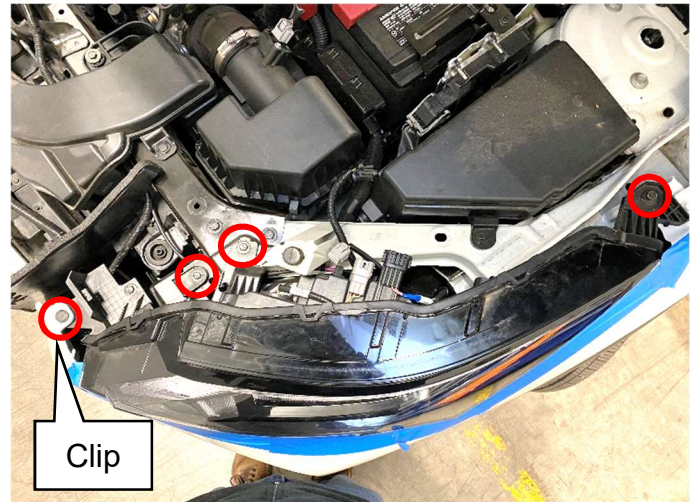

Figure 13
13. Remove mounting bolts and clip on top of the combination lamp assembly. (Figure 13)
- Three (3) mounting bolts
- One (1) clip